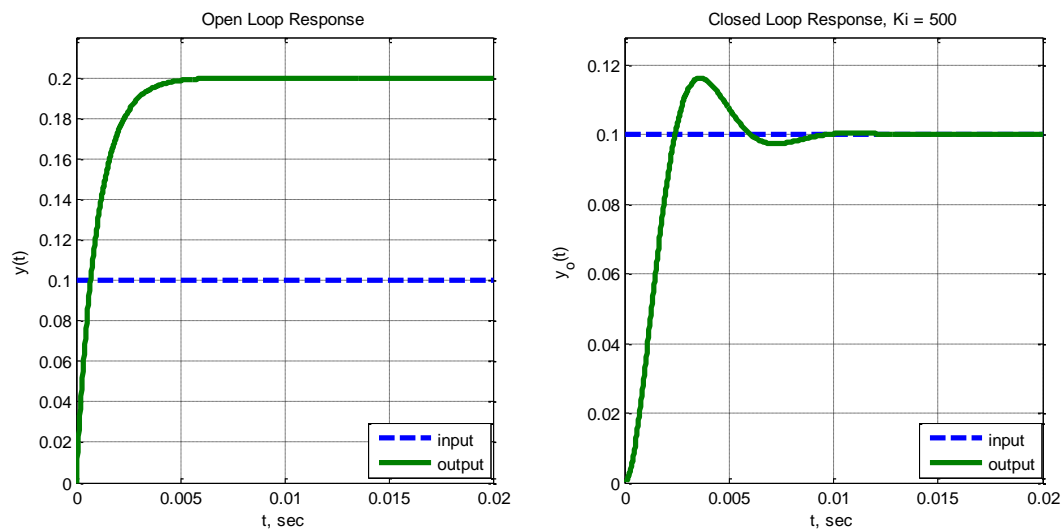

Figure 3: Integral Control
3. You should note that the settling time is now larger, the reference input ($A = 0.1$) is matched perfectly. However, as we increase the integral gain, K_i , the percent overshoot increases. The correct response for the second controller is shown in Figure 3.